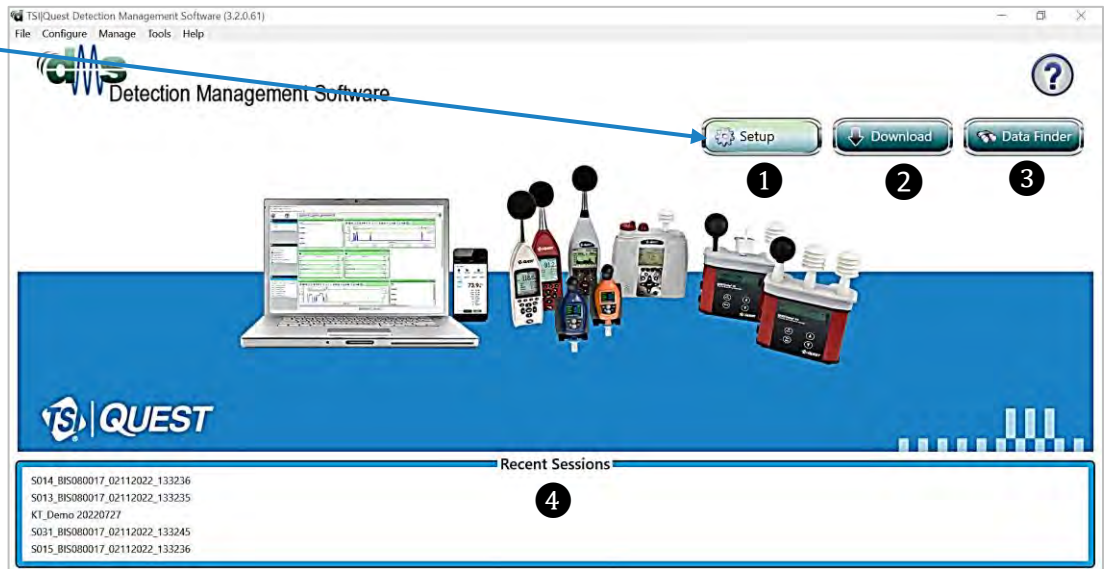

Figure 1-2: Start up screen
When either the Setup or Download buttons (see ❶ and ❷, Figure 1-2) are clicked, the instrument communications page will open. The primary functions there include:
When the Data Finder button (see ❸, Figure 1-2) is clicked, the data finder page will open to provide you access to your downloaded data files. The page is organized in a tabular format by instrument family (sound level meters, dosimetry, heat stress, and environmental monitoring.) session data and study data. (See “Glossary” for session and study data terms.)
The bottom of the screen displays Recent Sessions (see ❹, Figure 1-2) for accessing your previously accessed data files.